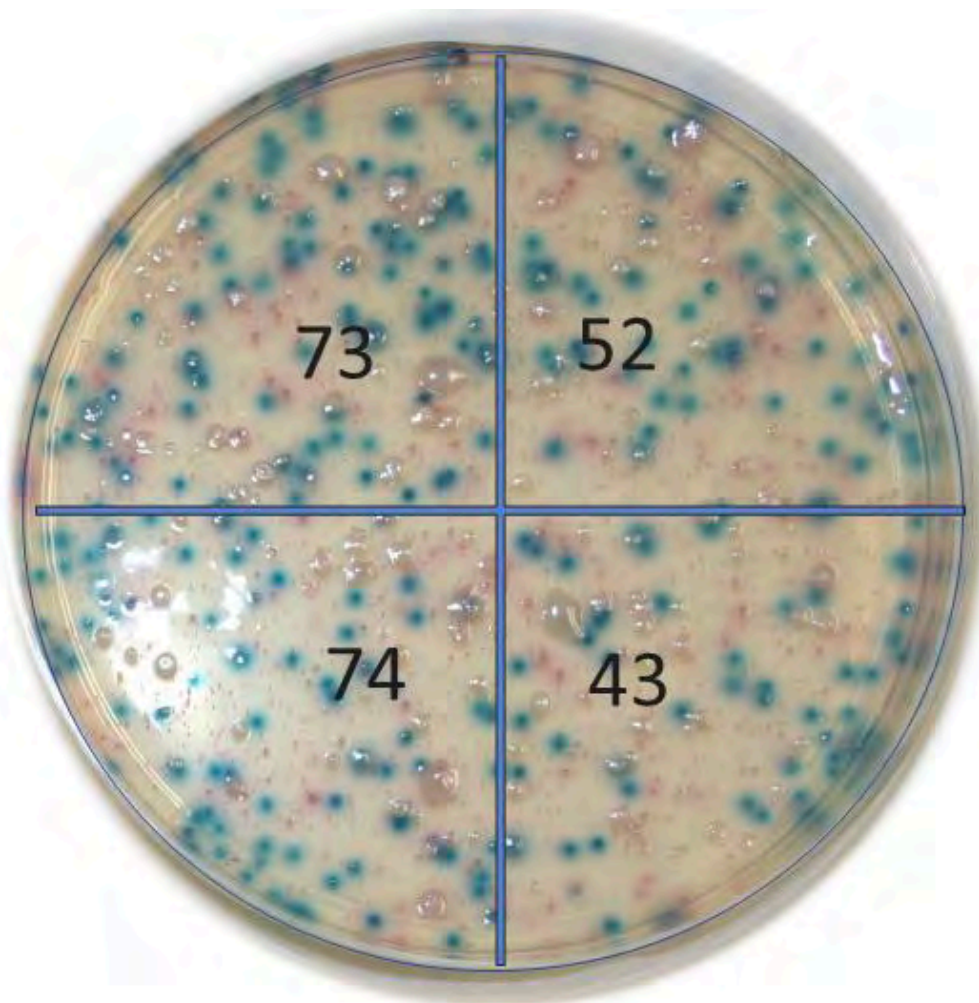

Figure 25: Example plates with quarter counts.
- Divide the plate into four quarters and count colonies one quarter at a time (Figure 25).